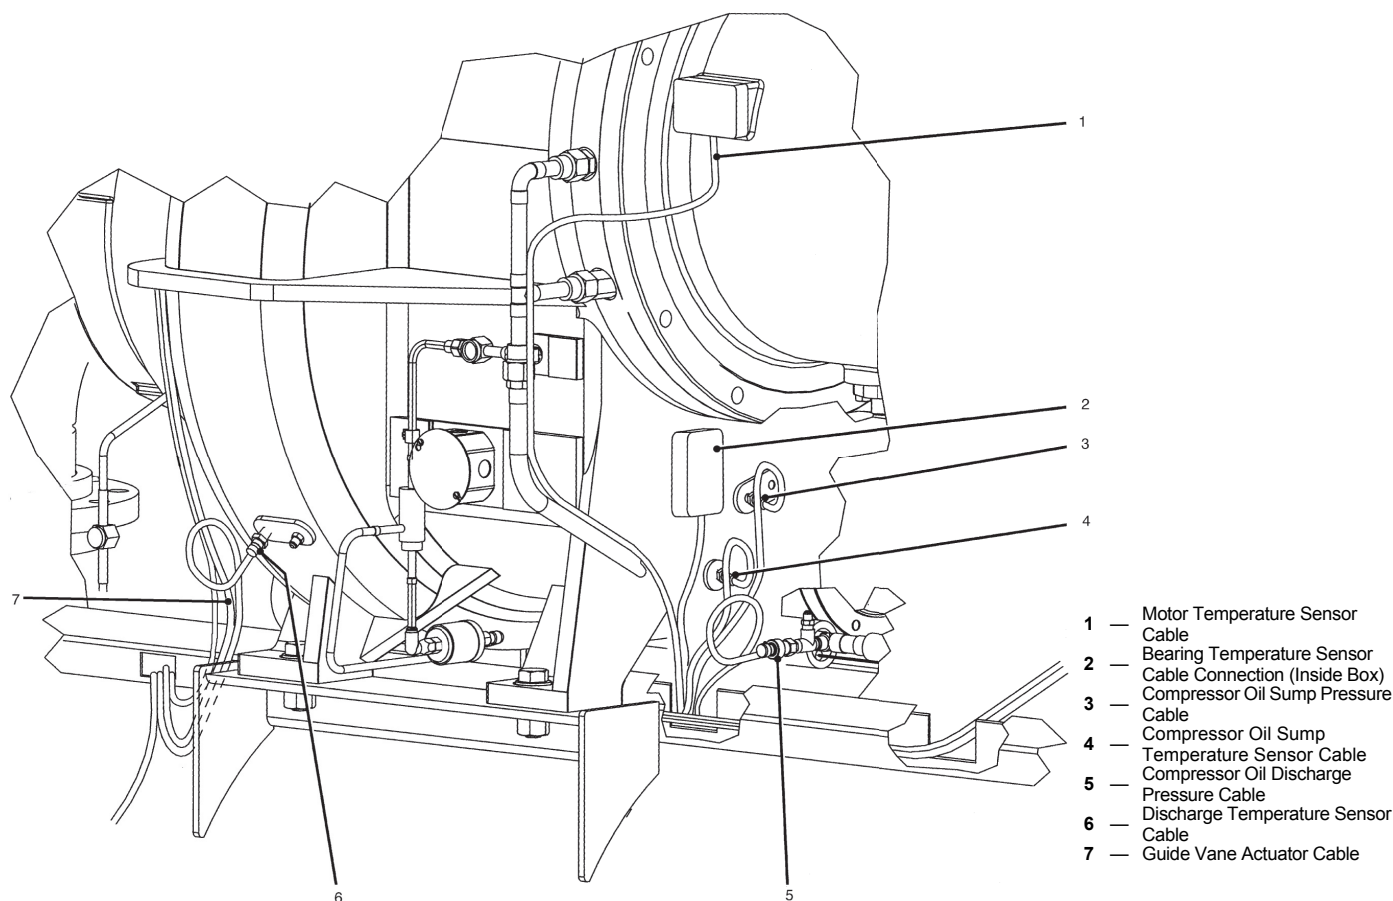

Fig. 19 — Compressor Detail
- a. compressor oil sump temperature sensor cable (Fig. 19, Item 4)
- b. bearing temperature sensor cable (Fig. 19, Item 2)
- c. motor temperature sensor cable (Fig. 19, Item 1)
- e. discharge temperature sensor cable (Fig. 19, Item 6)
- f. compressor oil sump pressure cable (Fig. 19, Item 3)
- g. compressor oil discharge pressure cable (Fig. 19, Item 5)
- j. diffuser pressure cable (Frame 5 compressor and Frame 4 units with split ring diffuser — Fig. 19, Item 8).